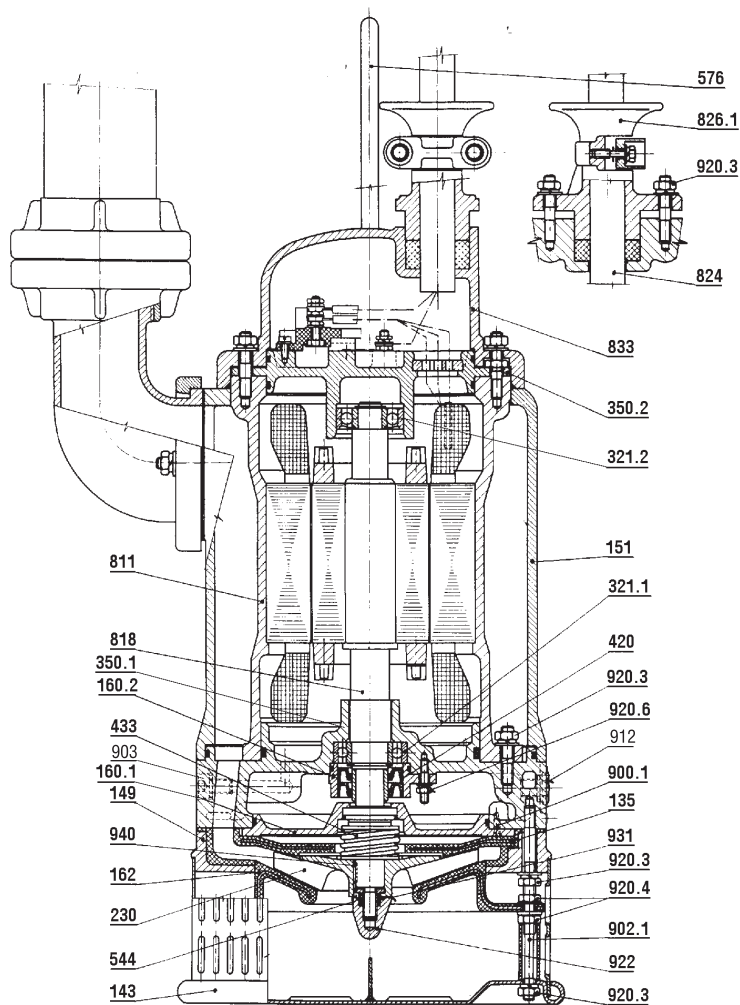

Fig. 4
Submersible portable sludge pump of the KDFU type (Fig. 4) is a single stage pump with a diffuser (149), and with an open multi-blade wear-proof impeller (230).